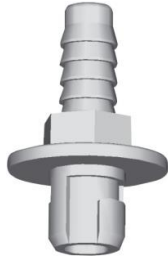

Figure 5
2. Remove the drain hose from the inlet hole. Uninstall the check valve from the main plate (see figure 5 below). Disassemble the outlet piping from the check valve. Clean the check valve and be sure that the ball inside of check valve moves freely.